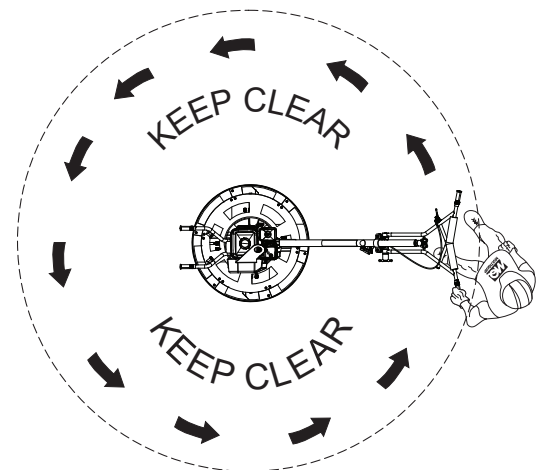

Figure 41. Centrifugal Safety Stop Switch Test
4. Stand behind the handle in the operator's position (Figure 41) and spin the handle to the right, simulating a runaway condition. Centrifugal force should throw the safety switch outward to the **OFF** position, thus shutting off the engine.